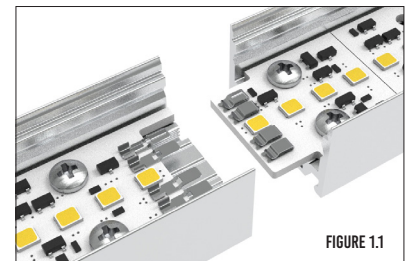

FIGURE 1.1
- Fixtures daisy chain together with Scout\_Lock™ Technology. See figures 1.1 and 1.2 below.